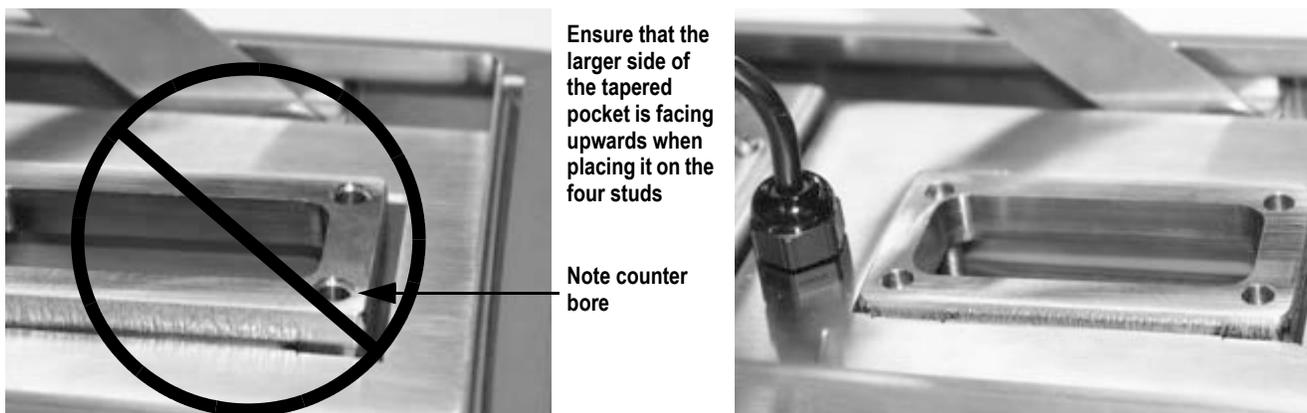

Figure 5-27. Incorrect and Correct Orientation of Main Plate
**NOTE:** Ensure that the communications cable main plate is oriented so that the tapered side is facing up. An easy way to tell if the main plate is oriented correctly is to note that the four holes on the main plate have counter bores which should face down. Refer to Figure 5-27.